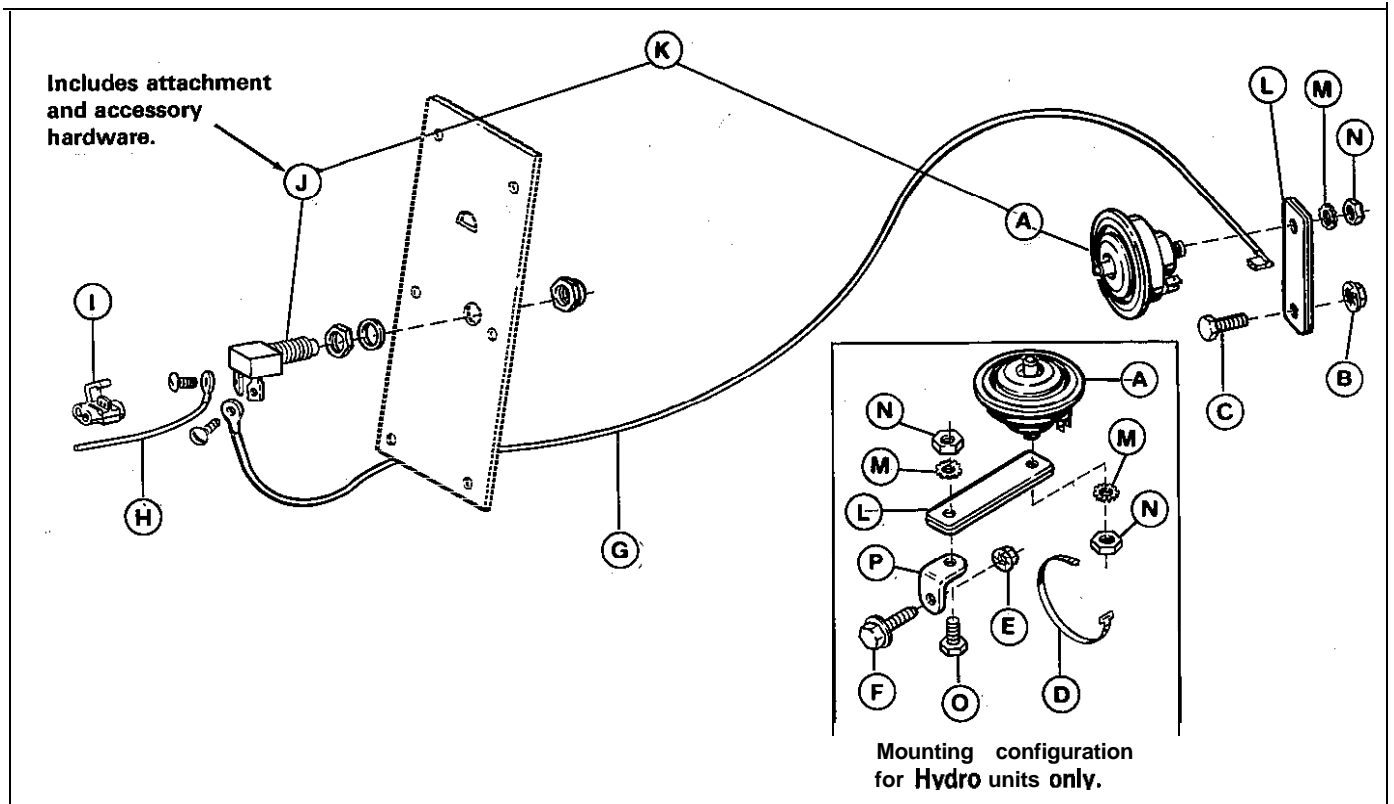

Figure 1.
Not all hardware supplied with horn kit will be used for this installation. Discard excess hardware. Refer to figure 1 to familiarize yourself with the assembly.
1. Connect the horn (A, figure 1) to the mounting plates (L) with lockwasher (M) and nut (N).
2. Connect the L-bracket (P, figure 1) to the mounting plates (L) with lockwasher (M) and nut (N).